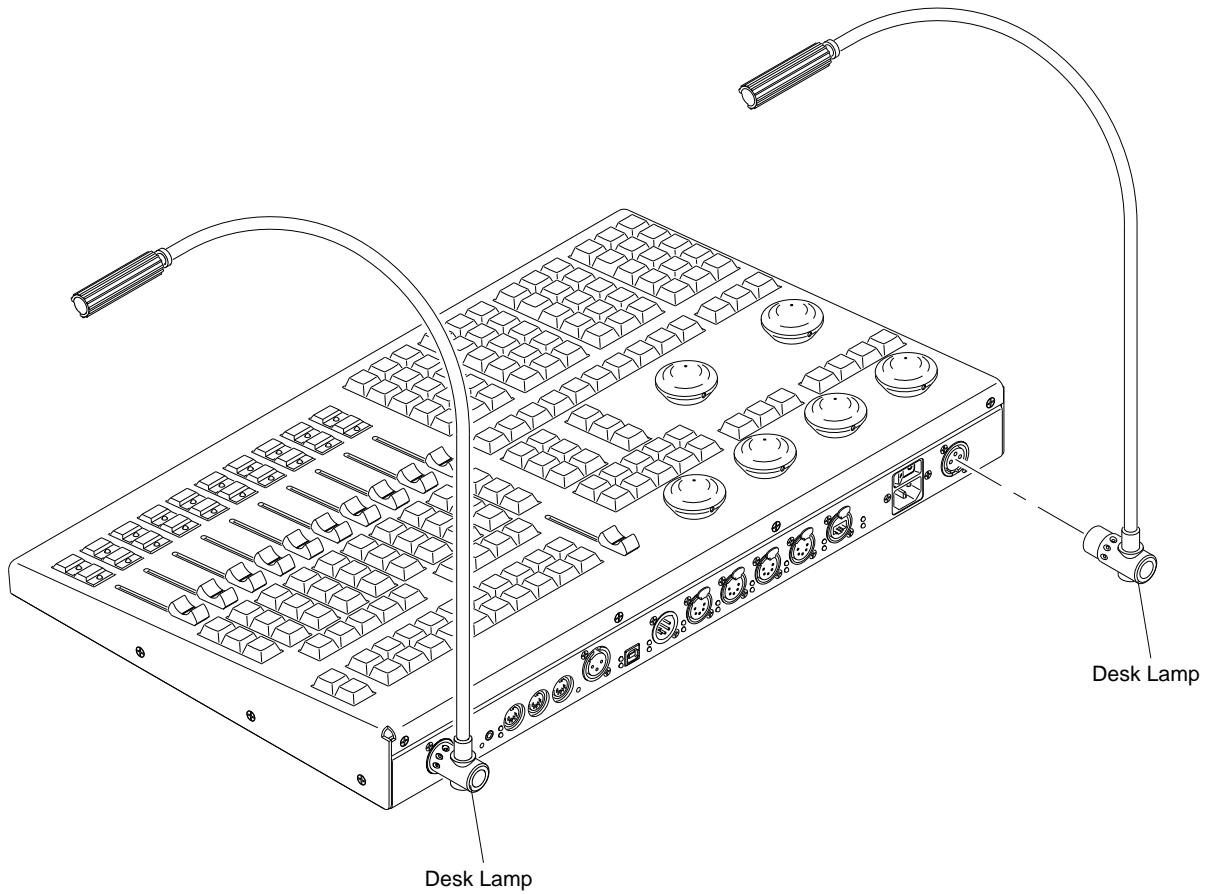

Figure 7: Installing Desk Lamps
Step 6. At rear of console, install desk lamps as required (Figure 7).